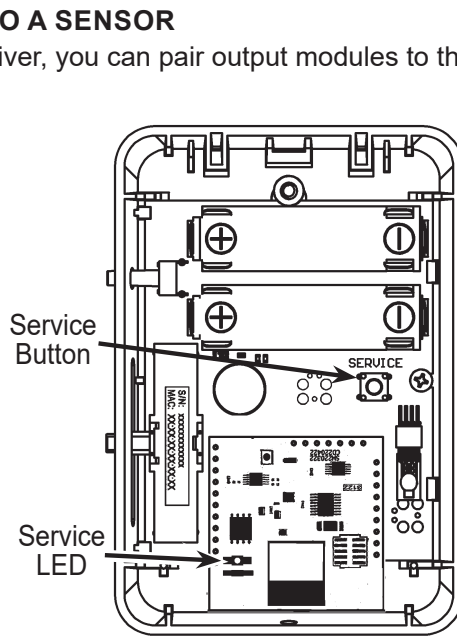

Fig. 2: BAPI-Stat "Quantum" Sensor Service Button and LED
3. Press and hold the "Service Button" on the top of the receiver until the blue LED starts to flash, then press and release the "Service Button" on the sensor (Figs 2 & 3) that you want to pair to the receiver. When the LED on the receiver returns to a solid "On" and the green "Service LED" on the sensor circuit board blinks rapidly three times, the pairing is complete. Repeat this process for all sensors.